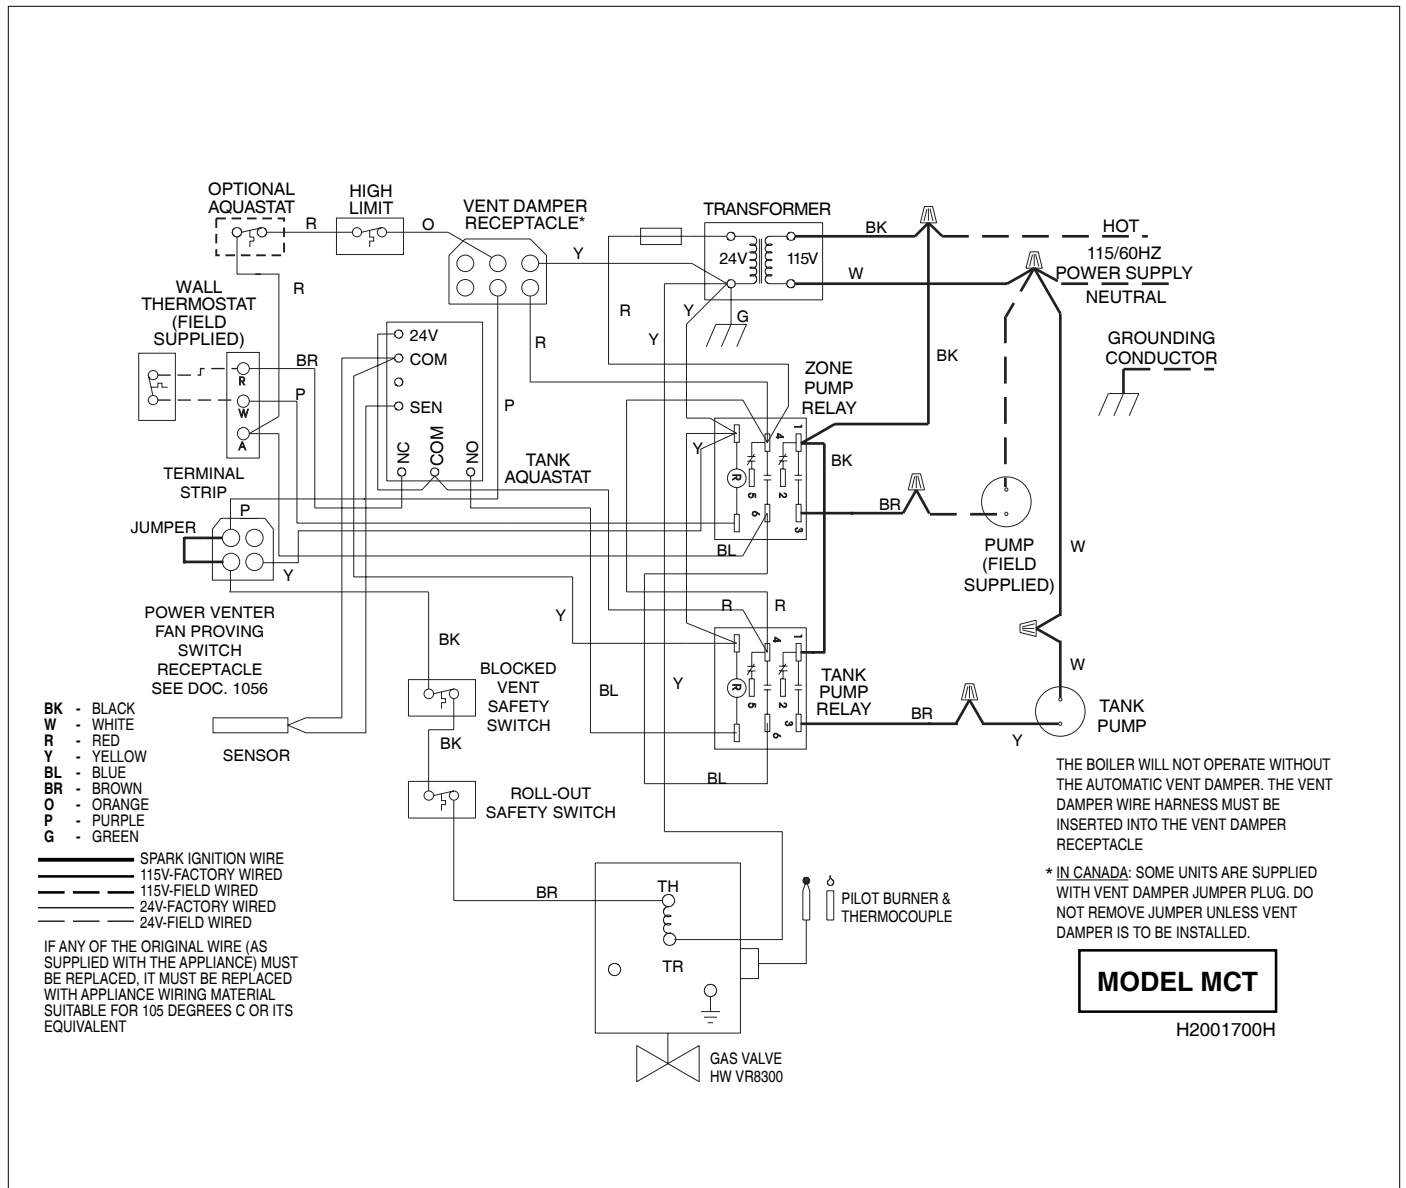

Figure 5. Wiring Diagram, Model MCT.
Electrical Connection: (See Figure 5, 6 and 7)
3. Follow Figures 5, 6 and 7. Remove the wire nut from the two black wires, and connect the hot lead from a 115 volt power supply to both wires. Secure the three wires with the wire nut.